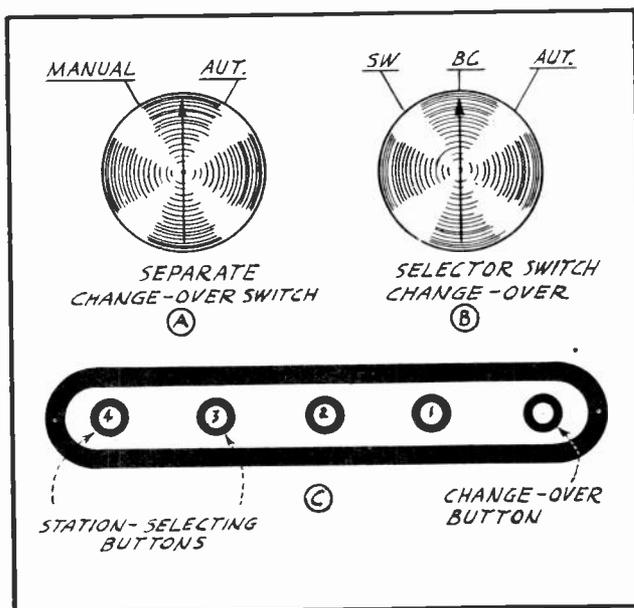
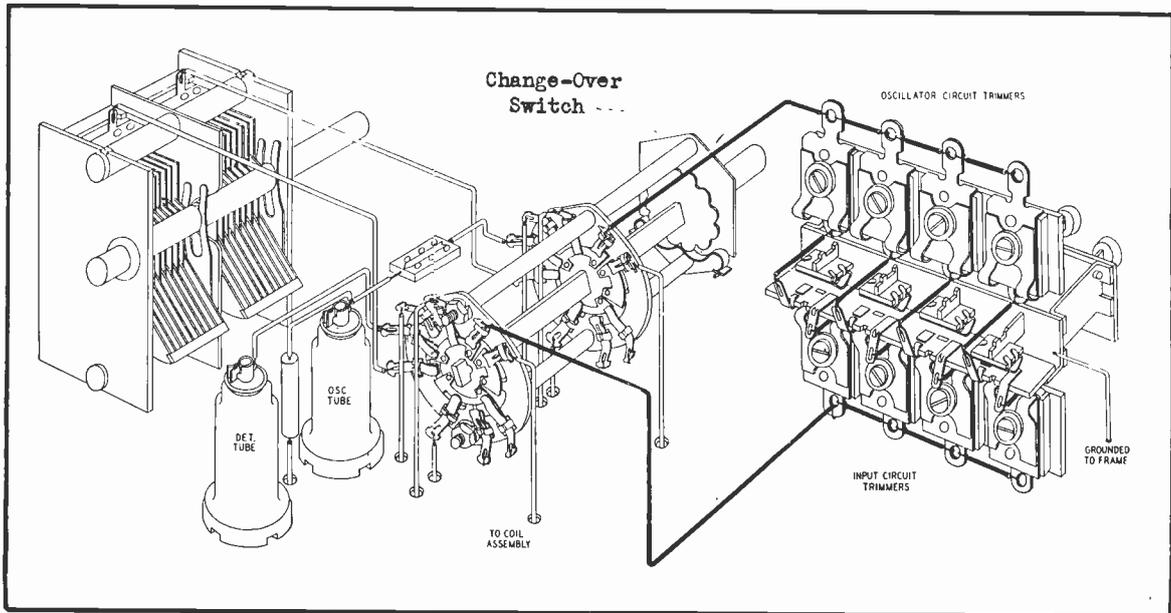
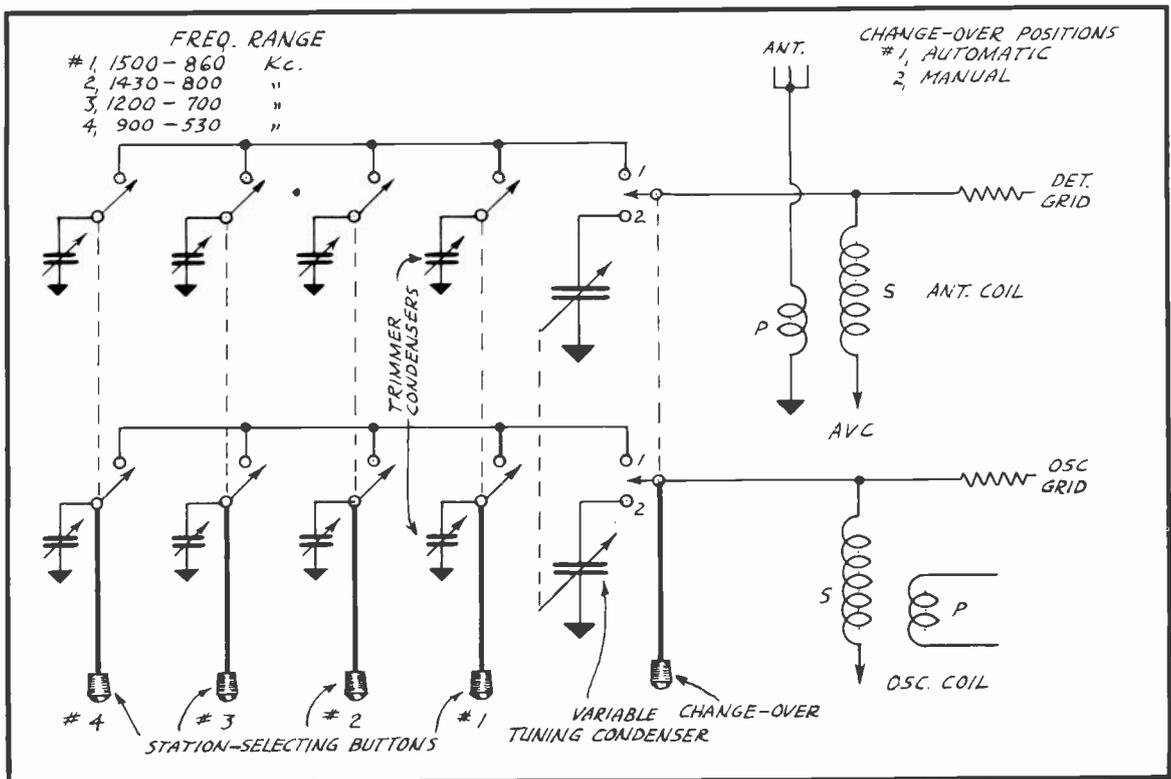
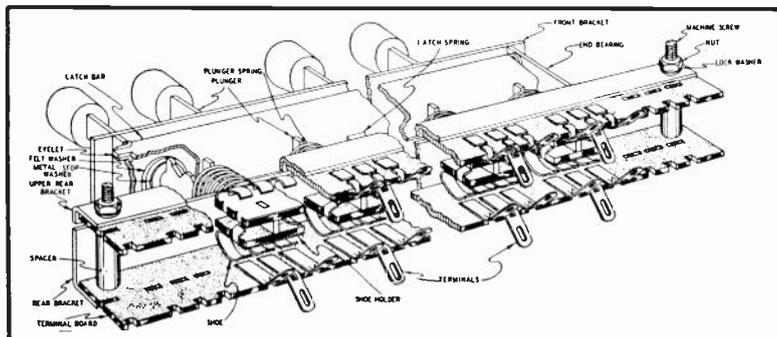

FIG. 13
FIG. 14
FIG. 15
FIG. 16
The principle of these systems is to substitute pre-set tuned circuits for the usual tuning circuits with which the ganged variable condenser is used. For automatic tuning, control is shifted from the gang condenser to pre-set trimmer condensers (or iron-core tuned coils), mounted adjacent to the switch terminals of a push-button selector switch. The transfer may be accomplished in a variety of ways, either automatically by the selector switch or by a separate change-over switch. In Fig. 13 are shown front panel views of the more common change-over methods.
At (A) of Fig. 13 you are shown a method where the change-over from manual to automatic tuning or vice-versa is accomplished by turning a knob to the required position. Some receivers use an arrangement similar to that shown at (B) of Fig.13, where a single switch may be turned to any one of three positions, offering shortwave reception and broadcast reception by means of manual tuning, and also broadcast reception by means of automatic tuning. A still different method appears at (C) of Fig.13, where the change-over switch is shown in the form of a push-button, and is incorporated
A typical condenser-substitution system is illustrated pictorially in Fig. 14, while a basic schematic wiring diagram of such a system is shown in Fig. 15. A sectional view of a typical station-selector switch, as used in this system, is shown in Fig. 16.
**CIRCUIT DETAILS:** The circuit illustrated in Fig. 15 is designed for use in a straight broadcast receiver, and the change-over from manual to automatic tuning is accomplished by special switch contacts built into and as a part of the main push-button selector switch. Such an arrangement corresponds to the escutcheon lay-out shown at (C) of Fig. 13. However, in some receivers the change-over is handled by a separate switch, as shown in Fig. 14 and illustrations (A) and (B) of Fig. 13.
By further referring to Fig. 14, you will observe that the upper bank of trimmer condensers serves to tune the oscillator grid circuits while the lower bank of condensers is used to tune the first detector circuit of a superheterodyne receiver. This particular circuit illustrates ground-side switching, with the high potential side of the trimmer condensers wired in parallel.
**OPERATION OF TUNED-CIRCUIT SUBSTITUTION SYSTEMS:** By referring to the circuit diagram of Fig. 15, you will observe that when the change-over switch is closed in position #2, in both the detector-grid and oscillator-grid circuits, the two sections of the gang variable tuning condenser are shunted across their respective coils, and when such a con-
Due to the dual gang connection of the station-selector switch circuits, simultaneous connection is made for both the first detector and oscillator tuning circuits when only one selecting button is depressed. Although not shown in the diagram of Fig. 15, for the sake of simplicity, provisions are made whereby when transferring from one button selecting circuit to another, the preceding set of dual switch points are automatically opened by action of the selector button switch which is depressed last.
The adjustment and alignment of the trimmer condensers for automatic station selection, will be restricted to stations whose frequencies are within the tuning range of the particular set of trimmer condensers. For instance, if in Fig. 15 button #1 is depressed, only stations operating at some frequency between 1500 and 860 kc can be tuned in by adjustment of these trimmers. Similarly, when button #2 is depressed, the frequency of the desired station must be within the frequency range of that set of trimmer condensers, namely, between 1430 and 800 kc. This is because of the limited capacity coverage of com-
**TRIMMER CONDENSER FACTORS:** By referring to the frequency ranges designated in Fig. 15 you will observe that the different trimmer condenser